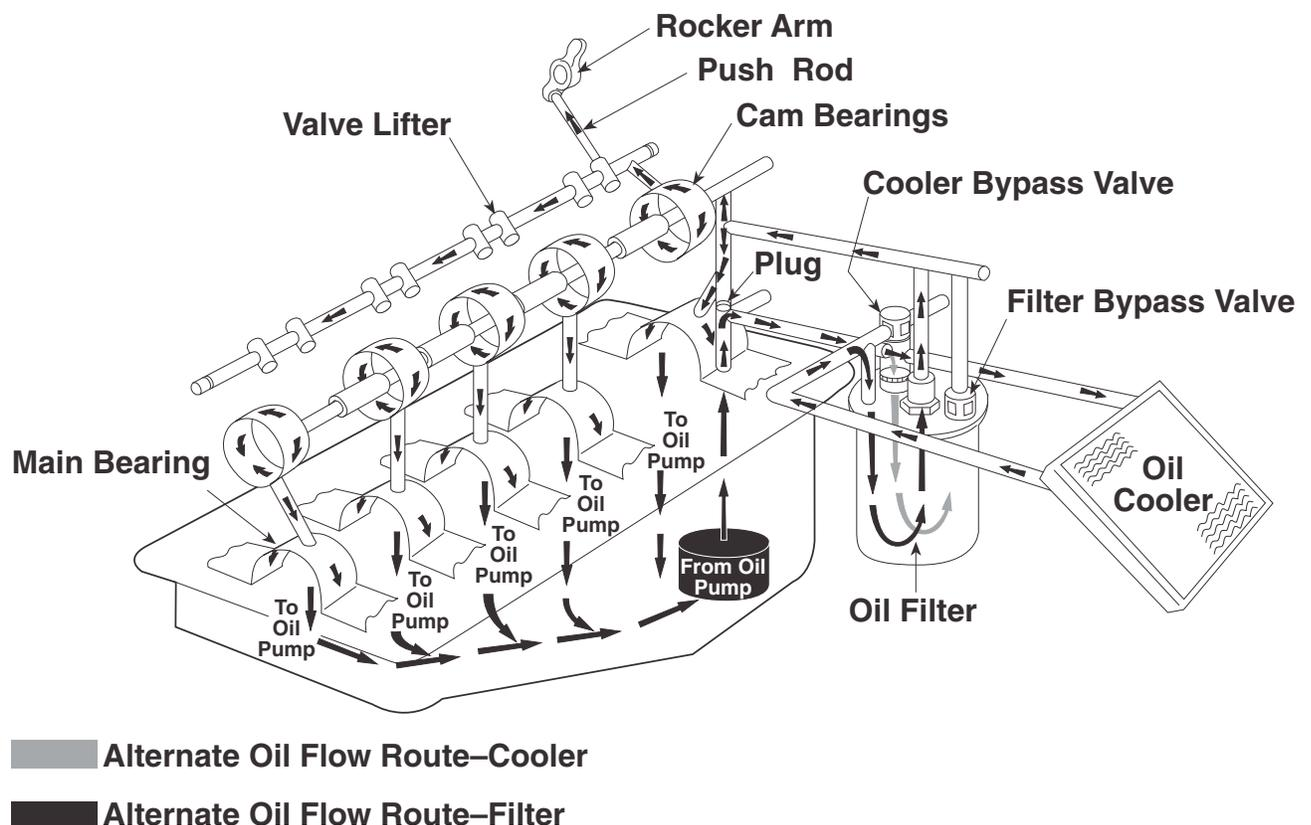

Figure 1-13. Engine Lubrication System Schematic.
O. ENGINE NORMAL OIL FLOW SCHEMATIC (Figure 1-13)